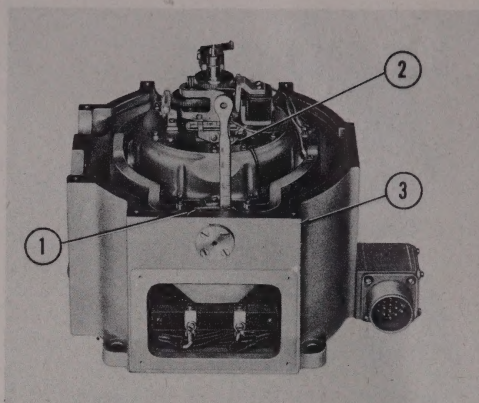

Figure 203 — Checking End Play of Cardan
(d) (See figure 203.) Using a taper gage (3) or a thickness gage, check the end play of the cardan (1) in the housing (2) between the No. 2 and No. 4 gudgeon pins. This end play should not be less than .003 inch, or more than .006 inch. If insufficient end play is indicated, add an equal amount of shims under the No. 2 and No. 4 gudgeon pins to provide for the correct clearance. If too much end play is indicated, shims may be removed from under these gudgeon pins; or if this does not reduce end play sufficiently, shims may be added between the cardan bearing and the shoulder against which the cardan bearings seat. (Do not remove gage between readings as clearance may not be the same in all positions.)